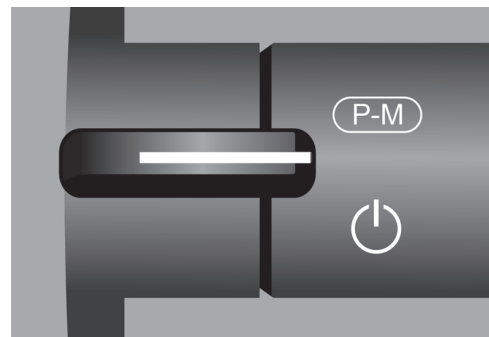

Figure 20. Power, mode and profile paddle switch, early version.
**i** If your panel is equipped with an early version of the toggle switch as shown in figure 20, follow the description below.